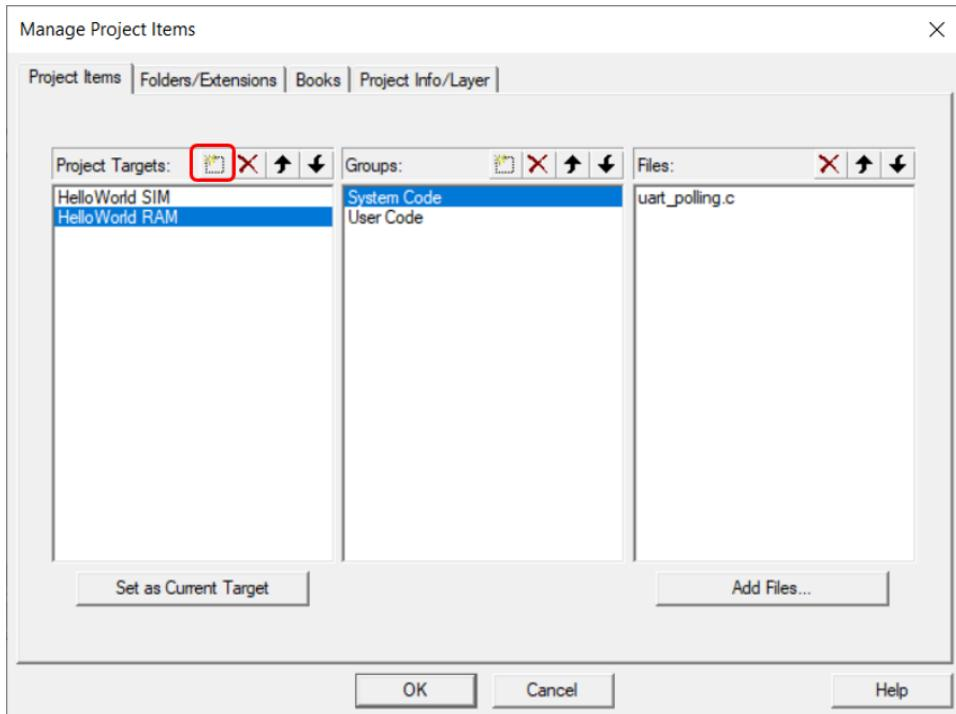

Figure 9.24: Keil IDE: Manage Project Items Window.
2. Press the New icon to create a new target and name it "HelloWorld RAM" (see Figure 9.24). The new target duplicates the HelloWorld SIM target configuration.